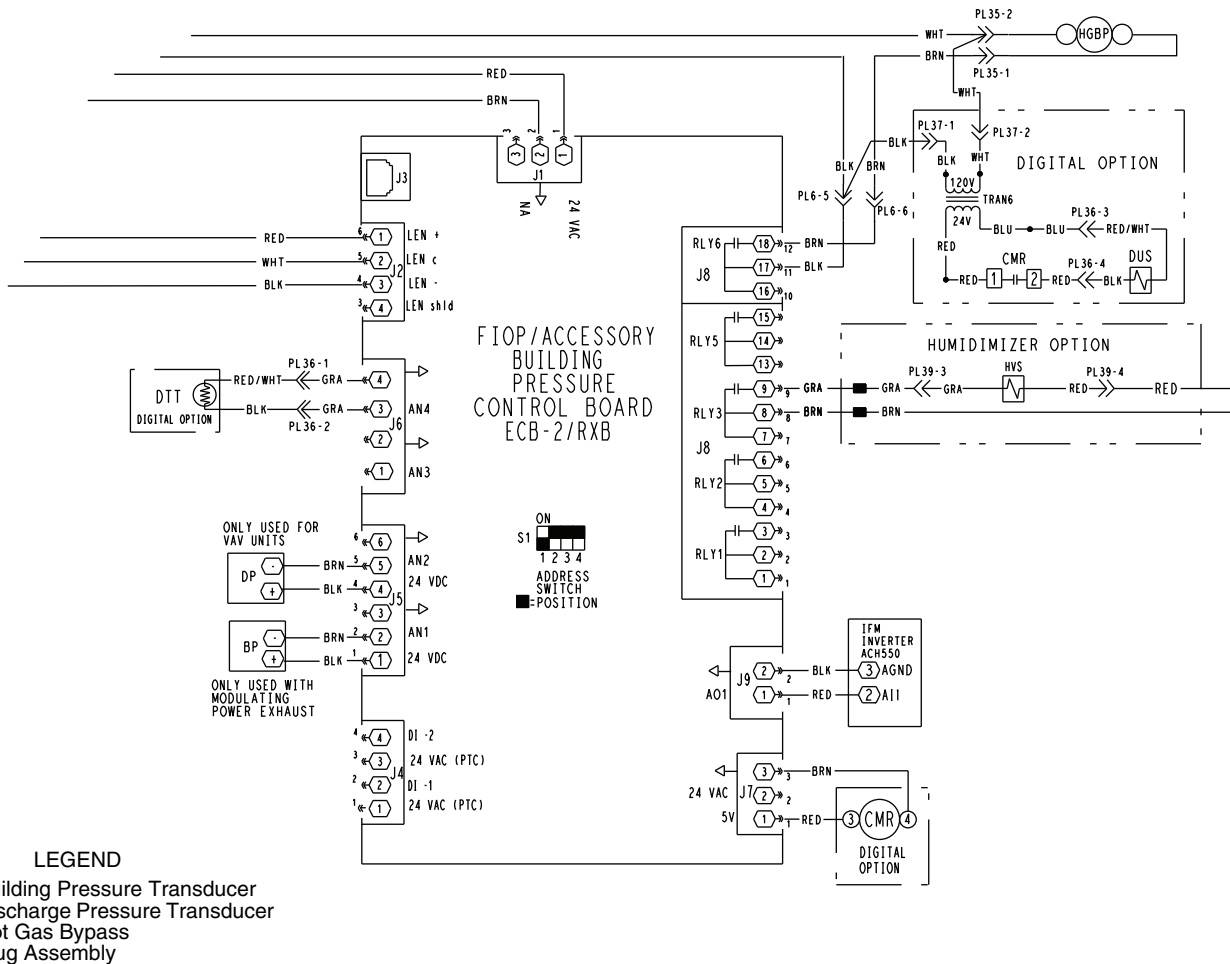

Fig. 12 — Auxiliary Control Box ECB2 Wiring
4. Locate the factory-installed wire harness for ECB2 in the control box and make the connections for J1, J2 and J5. Refer to Fig. 12.
4. Locate the factory-installed wire harness for BP in the control box and make the “+” and “-” connections. See Fig. 12.